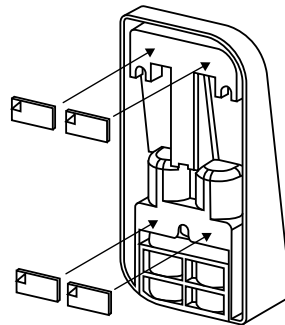

Fig. 7
- 2 Attach the enclosed adhesive pads to the positions shown in the illustration and peel off the backing strips (Fig. 7).